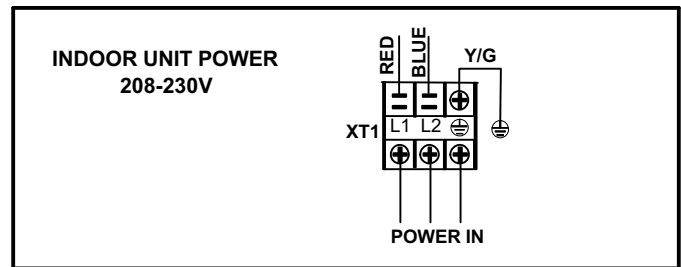

Figure 11. Typical Power Wiring
- 2 - Locate the terminal strip in the control box. Connect the power wiring (sized per NEC/CEC and local codes) and communications cable (**three-core, shielded cable**) per figures 11 and 12. Refer to unit nameplate for rated voltage.